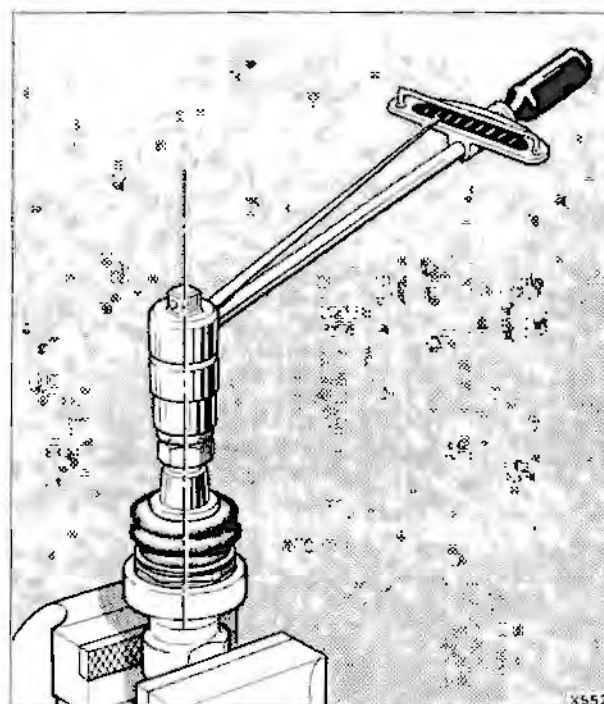

Fig. H4-6 Checking the ball joint pre-load
2. Hold the ball joint housing in a vice. Screw the new ball pin assembly into the housing without fitting the pre-load shims. Fit and lock together two nuts onto the ball pin (see fig. H4-6).